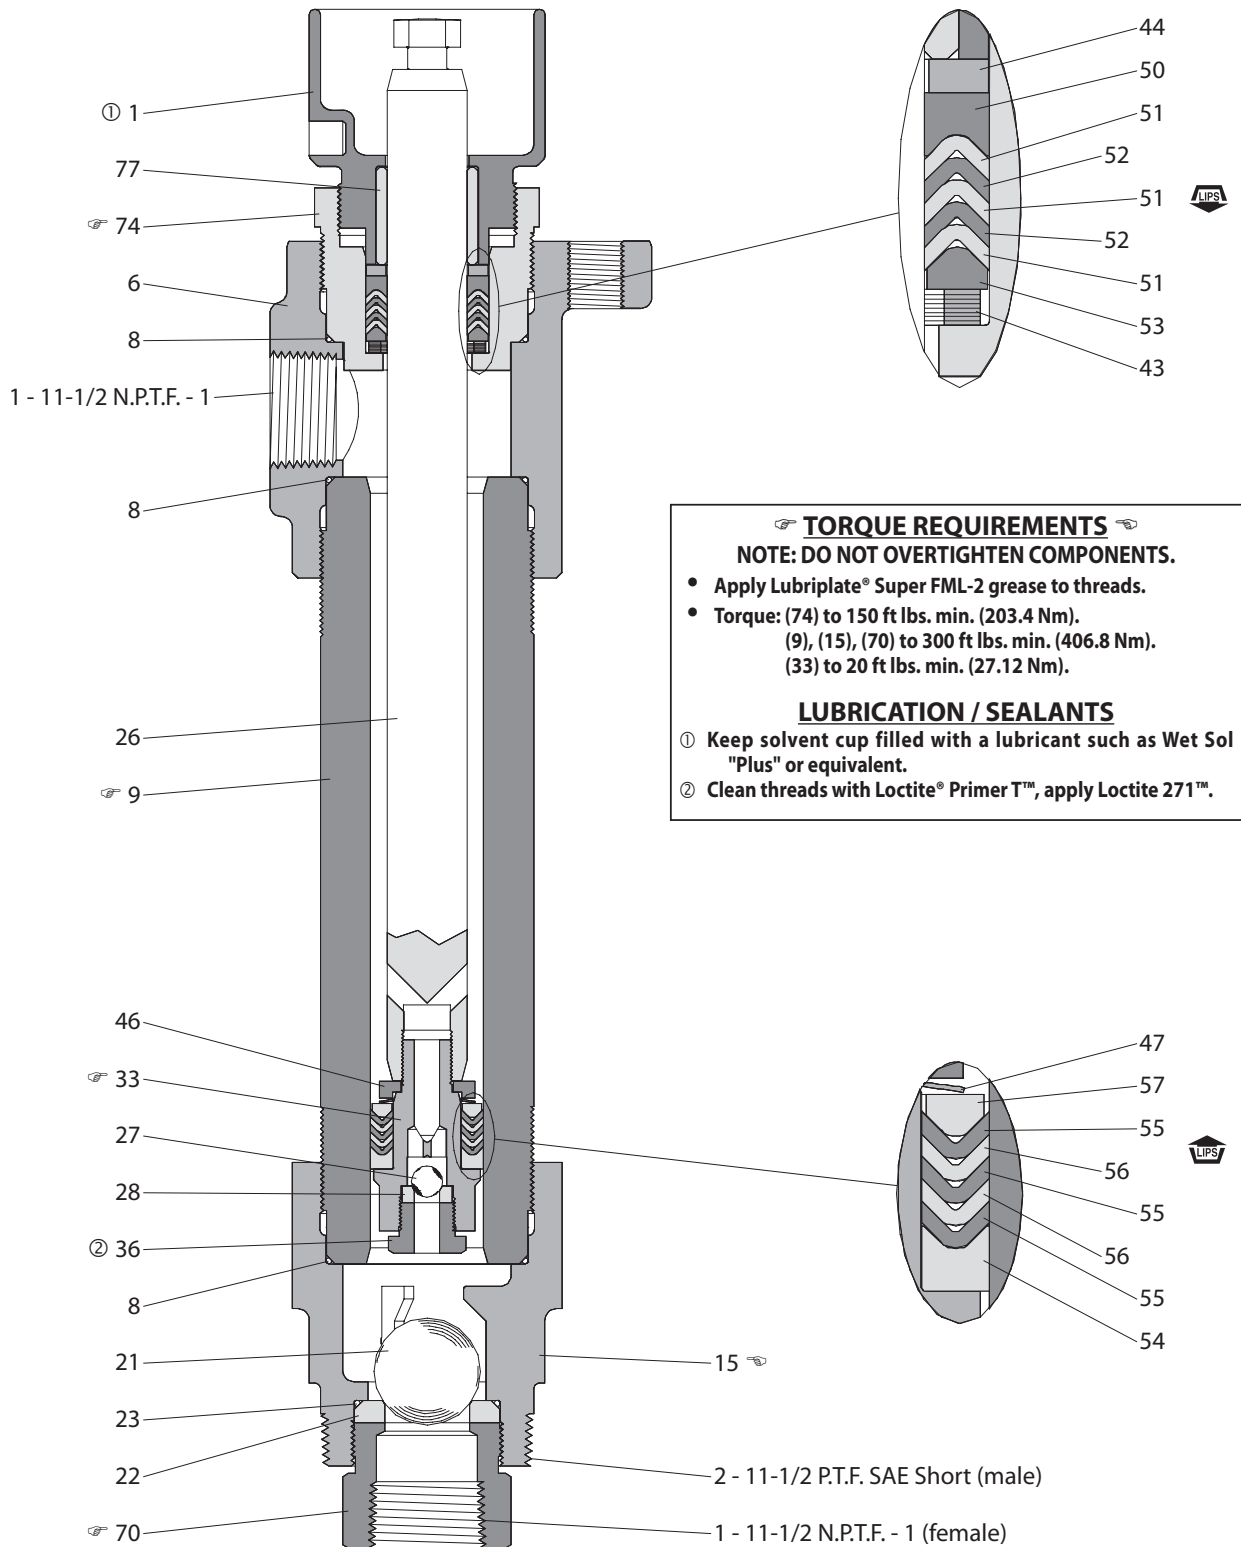

Figure 1
**NOTE:** Inspect and replace old parts with new parts as necessary. Look for deep scratches on metallic surfaces and nicks or cuts in "O" rings and packings. Refer to sealant and torque notes in figure 1.
- Secure the (74) nut in a vise and insert the (43) wave spring, (53) male packing washer, (51 and 52) "V" packings, (50) female packing washer and (44) washer into the (74) nut.
- Place the (77) bushing into the (1) solvent cup and screw the (1) solvent cup into the (74) nut. **Do not tighten.**
- Secure the (6) outlet body in a vise and place the (8) "O" ring at the bottom of the (74) nut and screw into the (6) outlet body. Tighten the (74) nut to 150 ft lbs. (203.4 Nm).
- Slide the (26) plunger rod into the (1) solvent cup and through the upper packing. **Be careful not to damage the packings.**
- Assemble the (33) piston by placing the (54) female packing washer, (55 and 56) "V" packings, (57) male packing washer, (47) bowed washer and (46) washer onto (33) piston.
- Screw the (33) piston assembly into the (26) plunger rod and tighten to 20 ft lbs. (27.12 Nm), place the (27) ball, and (28) seat into the (33) piston and screw the (36) adapter into place and tighten to 20 ft lbs. (27.12 Nm).
- Place the (8) "O" rings at each end of the (9) tube and slide the (9) tube over the lower piston assembly and screw into the (6) outlet body. Tighten to 300 ft lbs. (406.8 Nm).
- Screw the (15) inlet body onto the (9) tube and tighten to 300 ft lbs. (406.8 Nm).
- Place the (21) ball, (23) "O" ring and (22) seat into the (15) inlet body and screw the (70) inlet adapter into the (15) inlet body and tighten to 300 ft lbs. (406.8 Nm).
- Tighten the (1) solvent cup.